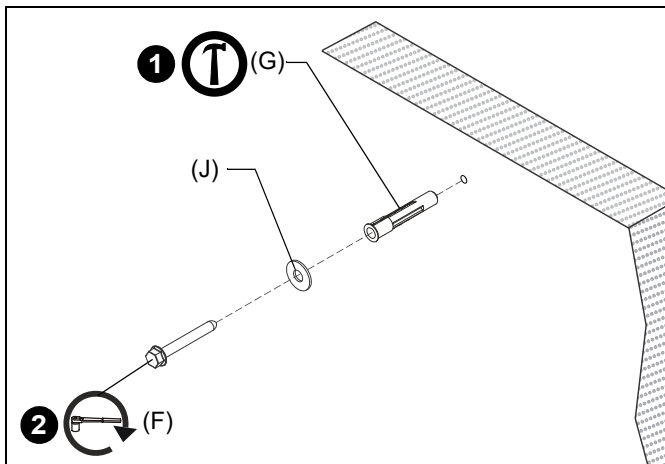

Figure 19
1. Install one UX10X60R anchor (G) into each pilot hole using a hammer, making sure that the anchor is flush with the wall. (See Figure 19)
2. Use one 5/16" x 2-1/2" hex flange head lag bolt (F) and one 5/16" washer (J) through product into each anchor in wall. (See Figure 19)